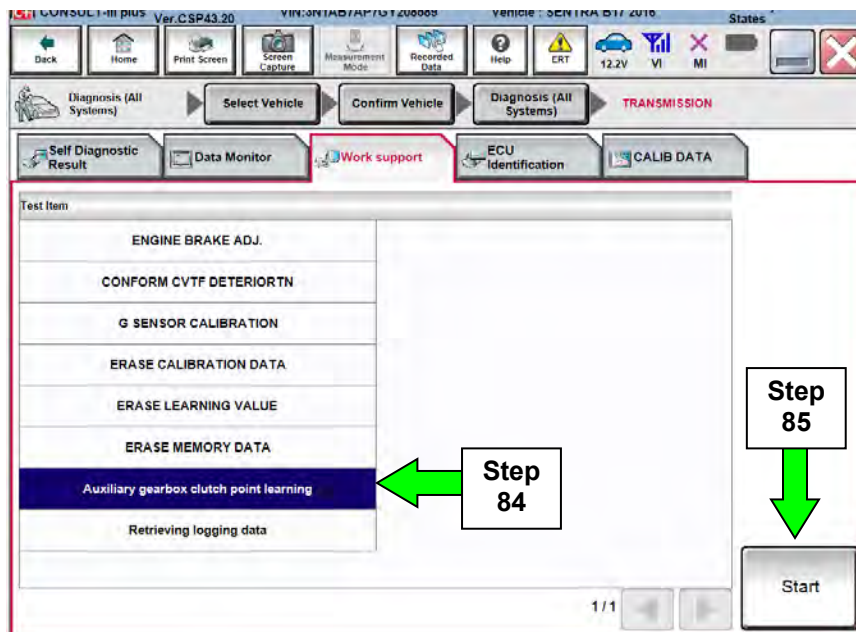

Figure 44
83. Navigate C-III plus to the screen shown in Figure 44.